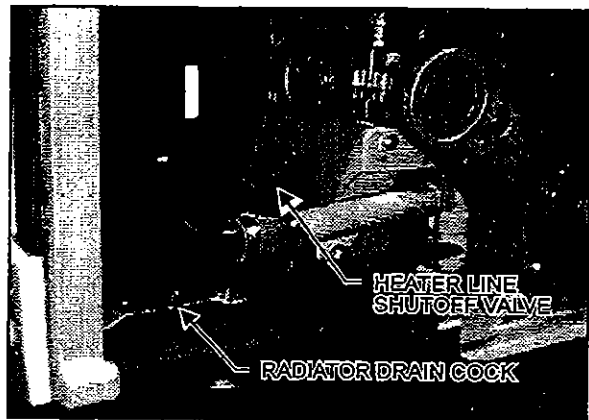
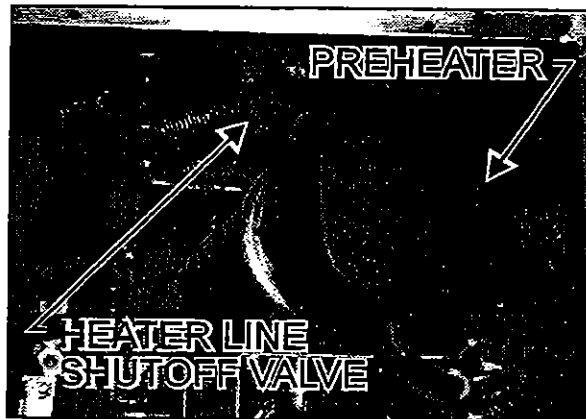

Figure 5: Engine Compartment
Figure 6: Rear Electric Compartment
1. Stop engine and allow engine fin to cool. Close both heater line shutoff valves. One located in the engine compartment under the radiator fan gearbox (Fig. 5). The other heater line shutoff valve is located in the L.H. rear electric compartment (near the preheater, see Fig. 6). Refer to Section 22, Preheating System, to gain access to the preheater and the heater line shutoff valve .
7. Open the radiator drain cock (Fig. 5).